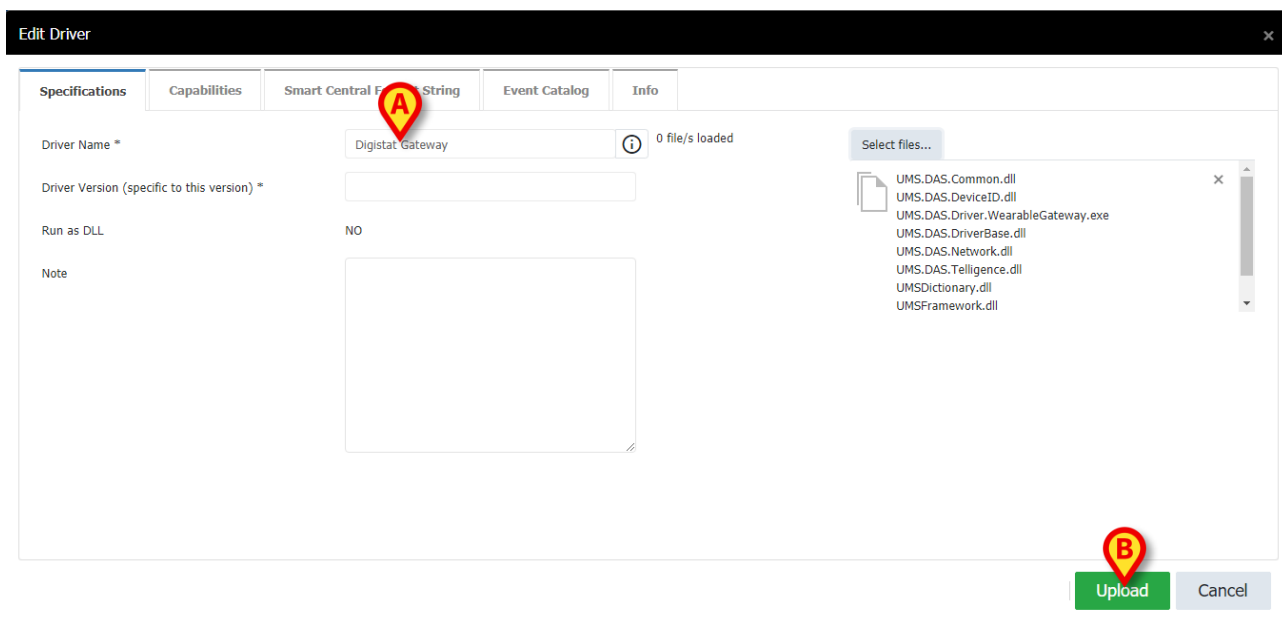

Fig 14
The **Edit Driver** window opens (Fig 14).
- Set the driver name as “Digistat Gateway” (Fig 14 **A**) and upload the files from the server workstation “C:\Digistat\Server\Drivers\DigistatGateway” folder by clicking the **Upload** button (Fig 14 **B**).